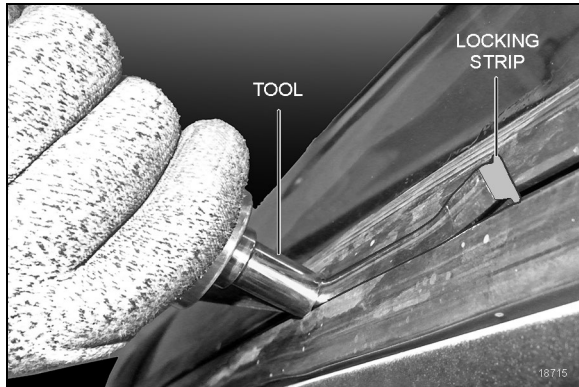

FIGURE 70
3. Insert the strip into the rubber extrusion groove. Start in the middle, at the upper end of the windshield (Figure 70).